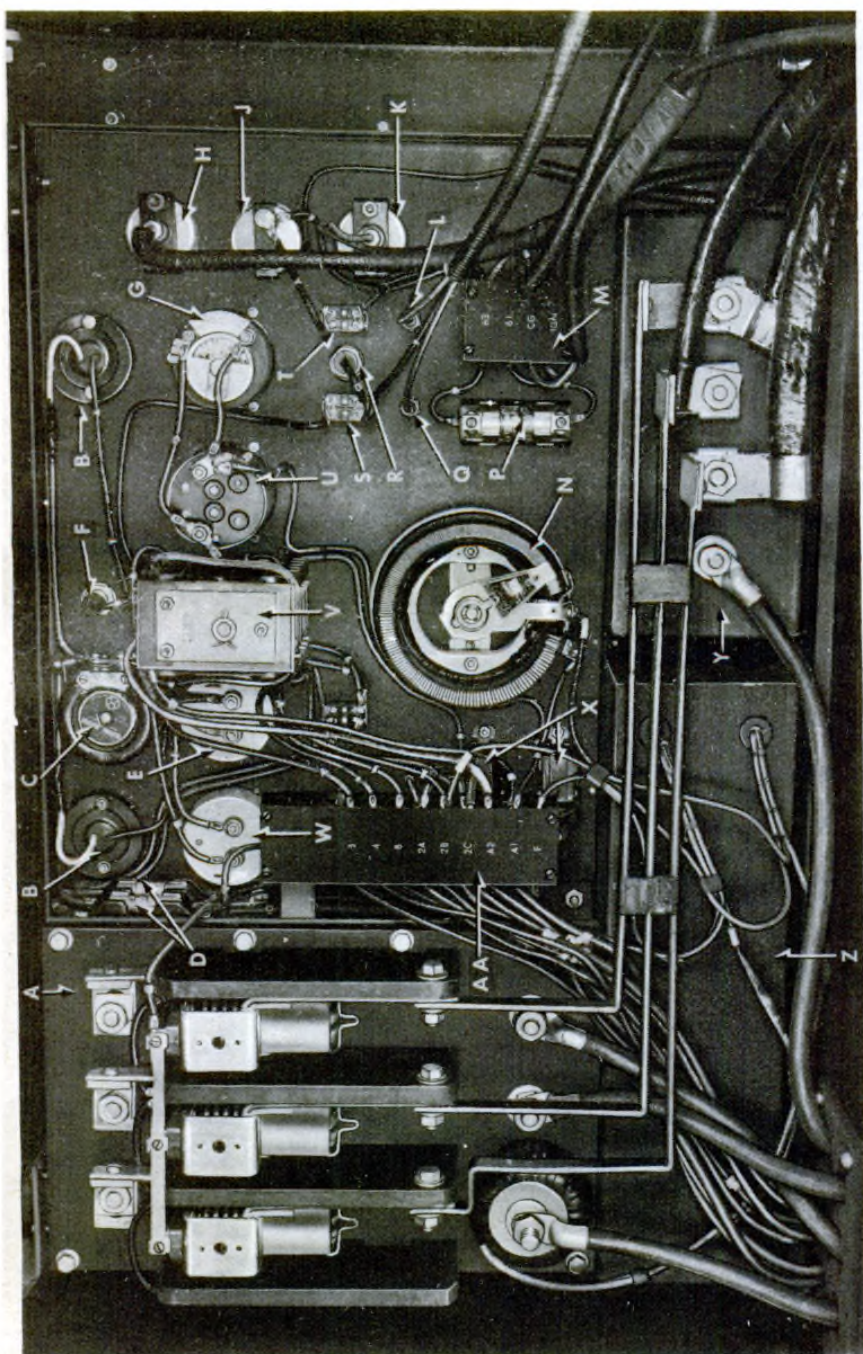

Figure 72 — Instrument Panel — Rear View
- (1) Take nuts from inverted flare tube fitting at back of gage (fig. 72), and remove line from instrument.
- (2) Take nuts and star washers from bracket. Remove bracket and gage.
Legend for Figure 72 — Instrument Panel — Rear View